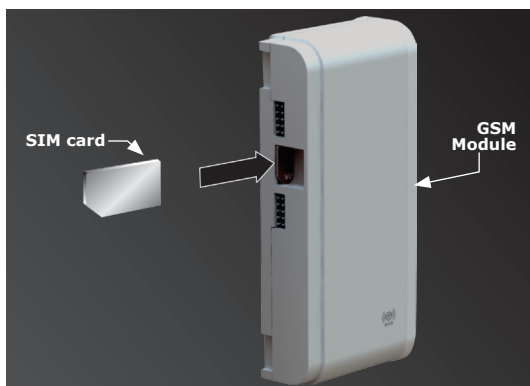

FIGURE 16.
2. Insert the SIM card into the GSM Module as shown in Figure 16 before you attach it to the SupaHelix Programming Console.